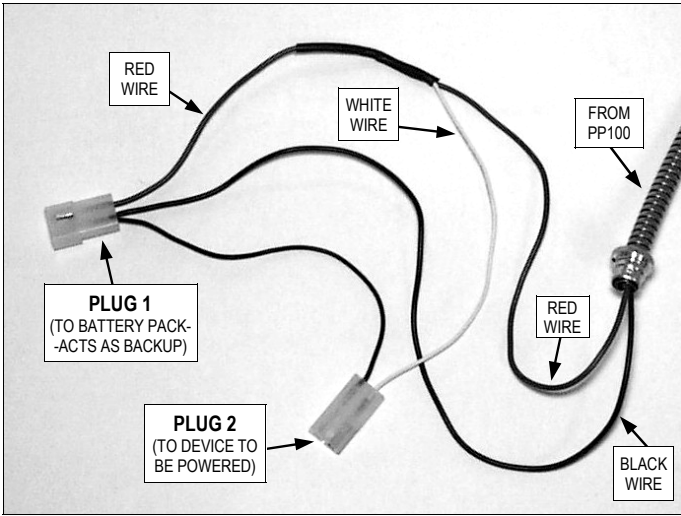
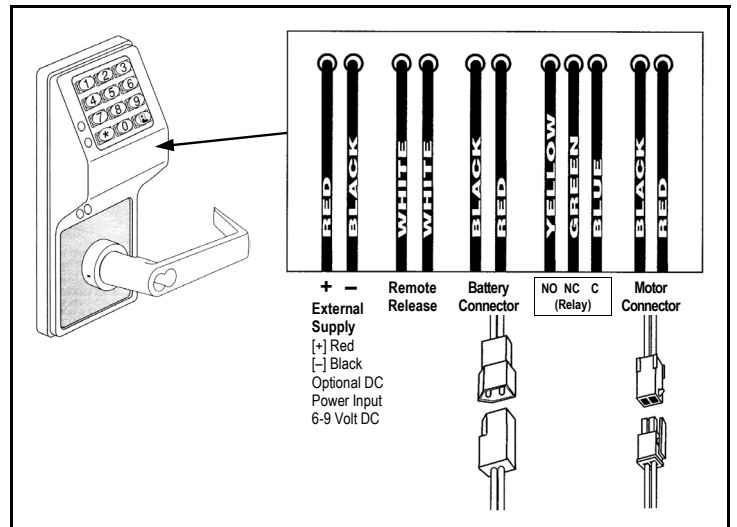

Figure 2: Hook Up
Figure 7: Terminal Strip inside DL Series of Locks
4. Plug the battery and load connectors from PP100 cable into mating connectors. Refer to Figures 2 and 3 on next page. **For 250, 700 11A, LL-1, PG10:** No adapter is required. **For PG21 and PG30:** Use 9V adapter. **For DL locks:** Cut off all connectors at the end of the armored cable, thus leaving only two wires (red and black) to be connected to the DL lock's terminal strip (see Figure 7). Batteries must remain connected as a backup in case of AC failure.
7. Connect all plugs (and 9-volt batteries if used) as shown in Figures 2 and 3 on next page.
In either case, the hole and/or cable notch must be large enough to allow the insertion of Plug #2 (see Figure 2). For surface mounted devices, the cable notch must secure the armored cable and its retaining "C" ring (supplied).